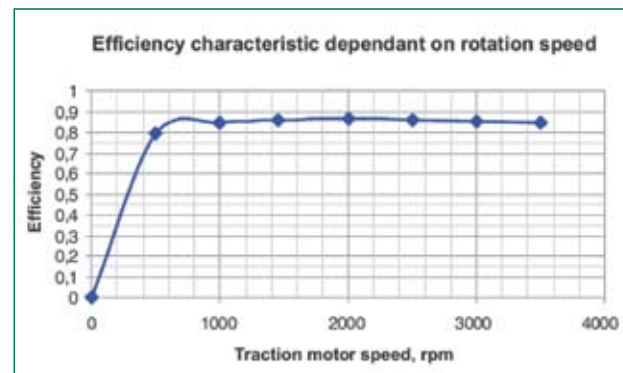

Figure 4: Dependence of the drivetrain efficiency on the traction AM rotation speed.
- Possibility of operation with high efficiency in the overall tractor speed range (see Fig.4)
Experimental characteristic of the total drivetrain efficiency (from the ICE shaft to the output traction motors shaft) dependant on the AM rotation speed at maximum torque and maximum power is given in Figure 4.